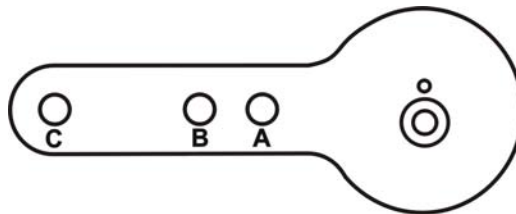

Figure 10 Lever for Model 87/88 Multispring Actuator
3. Select mounting hole A, B, C or D for the stroke of the valve. For example, hole B is shown in Figure 10 on page 19 for a size 10 actuator with 1.0" stroke. Unless otherwise specified, the SVI II AP mounting assumes that the actuator is in the normal upright position. The mounting hole in the slotted opening of the mounting bracket must be left when facing the actuator, with the actuator in the upright position.
5. Attach the right hand threaded rod end to the SVI II AP lever using a 1/4 - 20 x 1" cap screw and nut as shown. The lever hole position to be used depends upon the specific valve stroke. Refer to Figure 10 on page 19 and the Reciprocating Valve Linkage Selection, Table 3 on page 19.